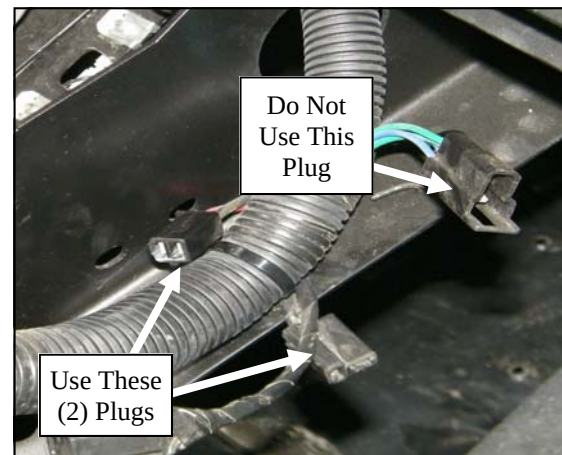

FIGURE 4.2
4.2 Route the wiring from the switch to the driver's side beneath the dashboard. Plug in to the mating connectors on the vehicle wiring as seen in Figure 4.2. The black and red heater wire with male terminals should mate up with the black and red vehicle plug. The black and yellow heater wire with the male terminals should mate up with the black and yellow vehicle plug.